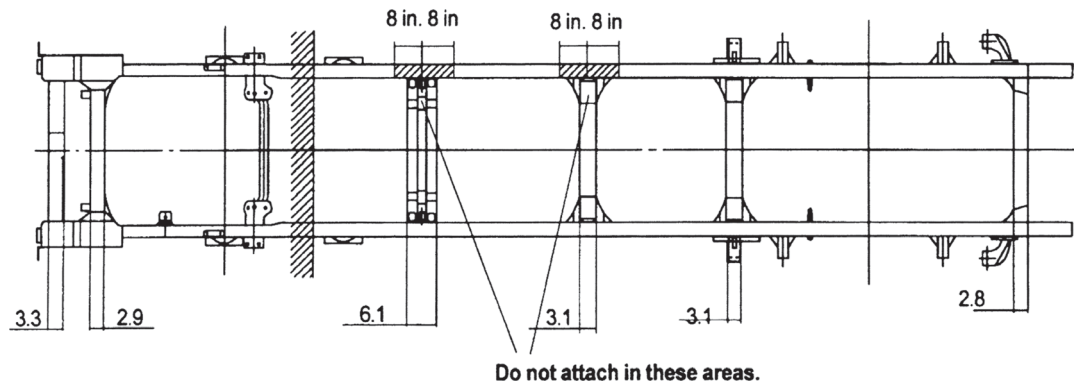

Figure 16
2. Within 8 inches of bends in the chassis frame or the attachment points of any crossmembers (Figure 16).